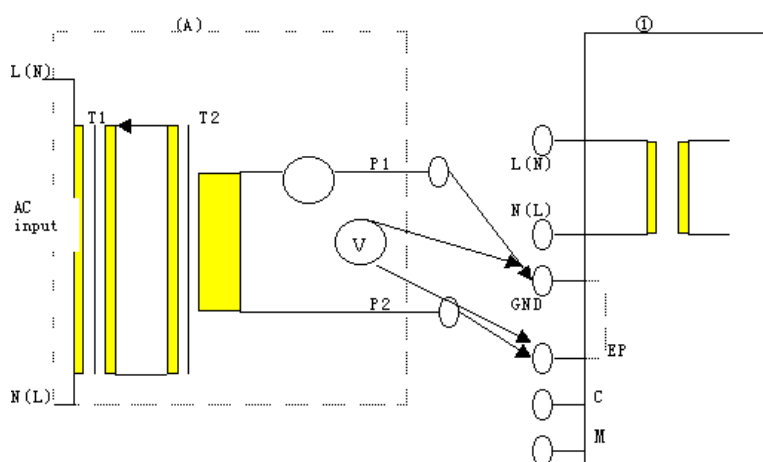

Figure 3-5 Connection graph for testing grounding resistance
2.2.5.1 Connection graph for testing ground resistance is shown in figure 3-5: